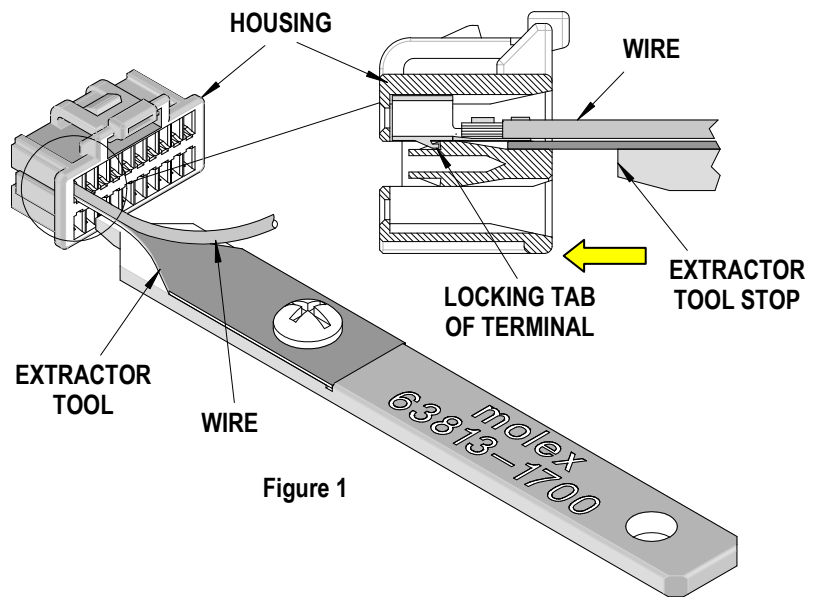

Figure 1
2. Insert the Extractor Tool into the slot below the terminal until the stop on the tool contacts the plastic housing as shown in Figure 1. This will flex the plastic lance freeing the terminal.